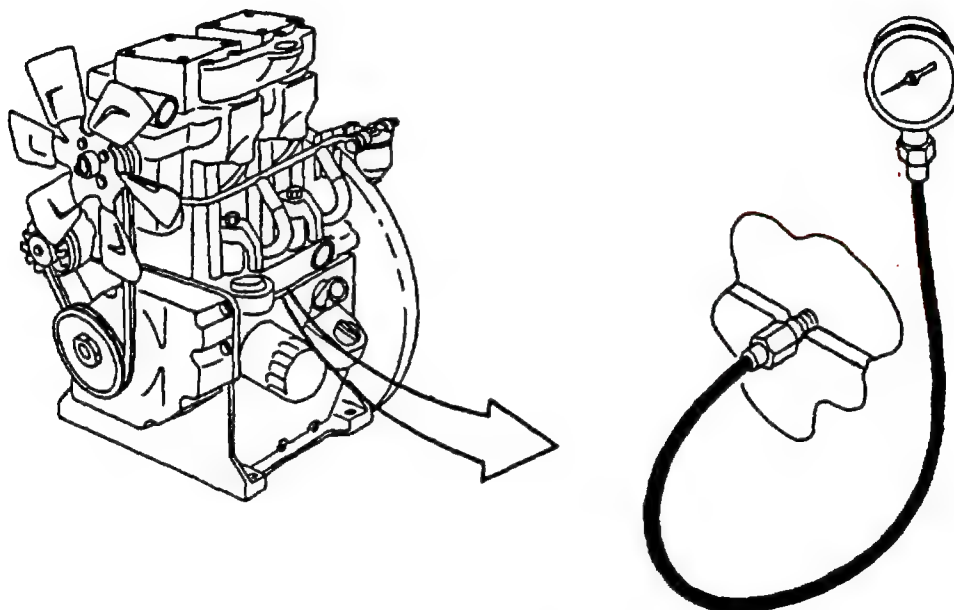

FIGURE 3-18. Oil Pressure Test Setup
- a. Tag and disconnect electrical leads to oil pressure sender, remove oil pressure sender, and install test pressure gage 0-150 psi (01034 kPa), refer to **FIGURE 3-18**.